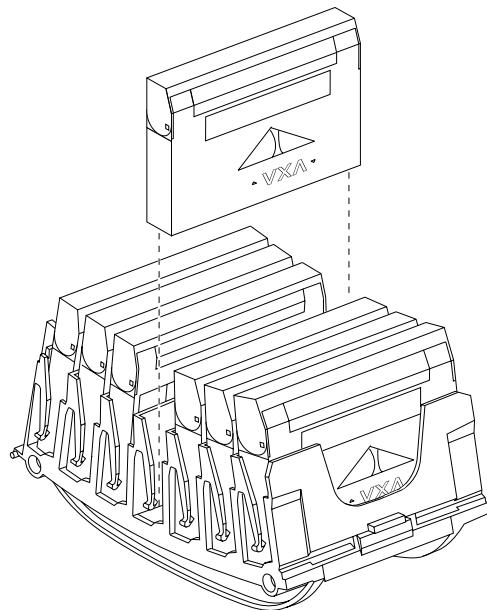

Figure 2-4 Installing cartridges in the magazine
3. Place the magazine on its back with the cartridge slots facing up. Orient the cartridges as shown in Figure 2-4.
Avoid touching or opening the cartridge dust cover when handling the cartridges. Make sure the cartridge is inserted as shown in Figure 2-4, or you may damage the magazine when you place it into the autoloader.